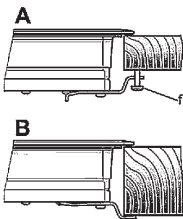

FIG. 8
4. Fix the hooks in the relative accommodations of the body with the screws F. (see Figure 8)